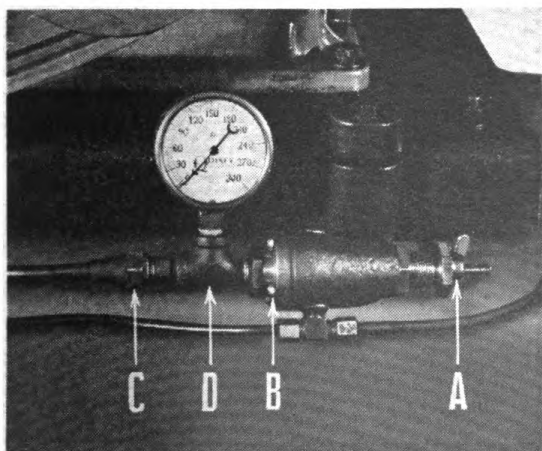
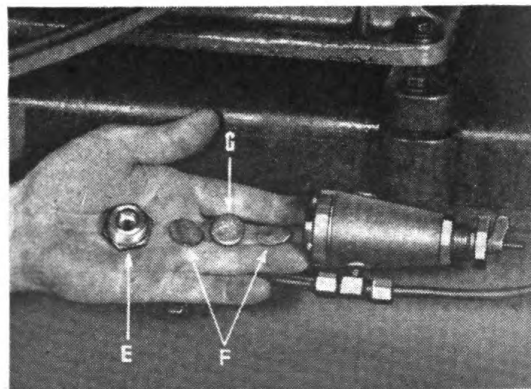

Figure 52
Figure 53
(1) When compressor is in operation make sure that wing nut (“A” Figure 52) of VD Pilot is far enough away from hexagon screw to permit free movement.
(2) Make certain that screws (“B” Figure 52) are tight. If loose they will permit air pressure to escape and compressor will not unload properly.
(3) Bleed air from receiver (See Figure 43), disconnect tubing at “C” Figure 52, unscrew air gauge from tee, and remove tee (“D” Figure 52) from VD Pilot. Now unscrew plug (“E” Figure 53) and remove screens (“F” Figure 53) and felt (“G” Figure 53).